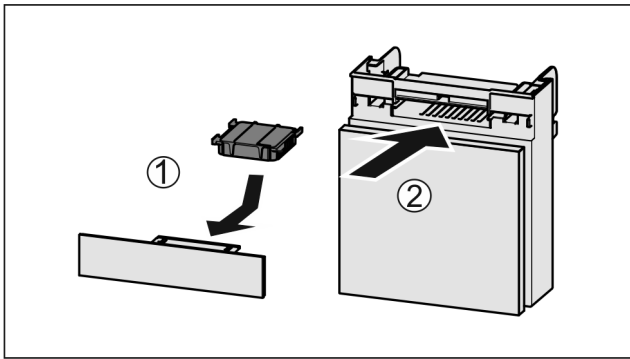

Fig. 135
- ▶ Insert the carbon filter as shown in the diagram Fig. 135 (1).
- ▶ Push the compartment in Fig. 135 (2).